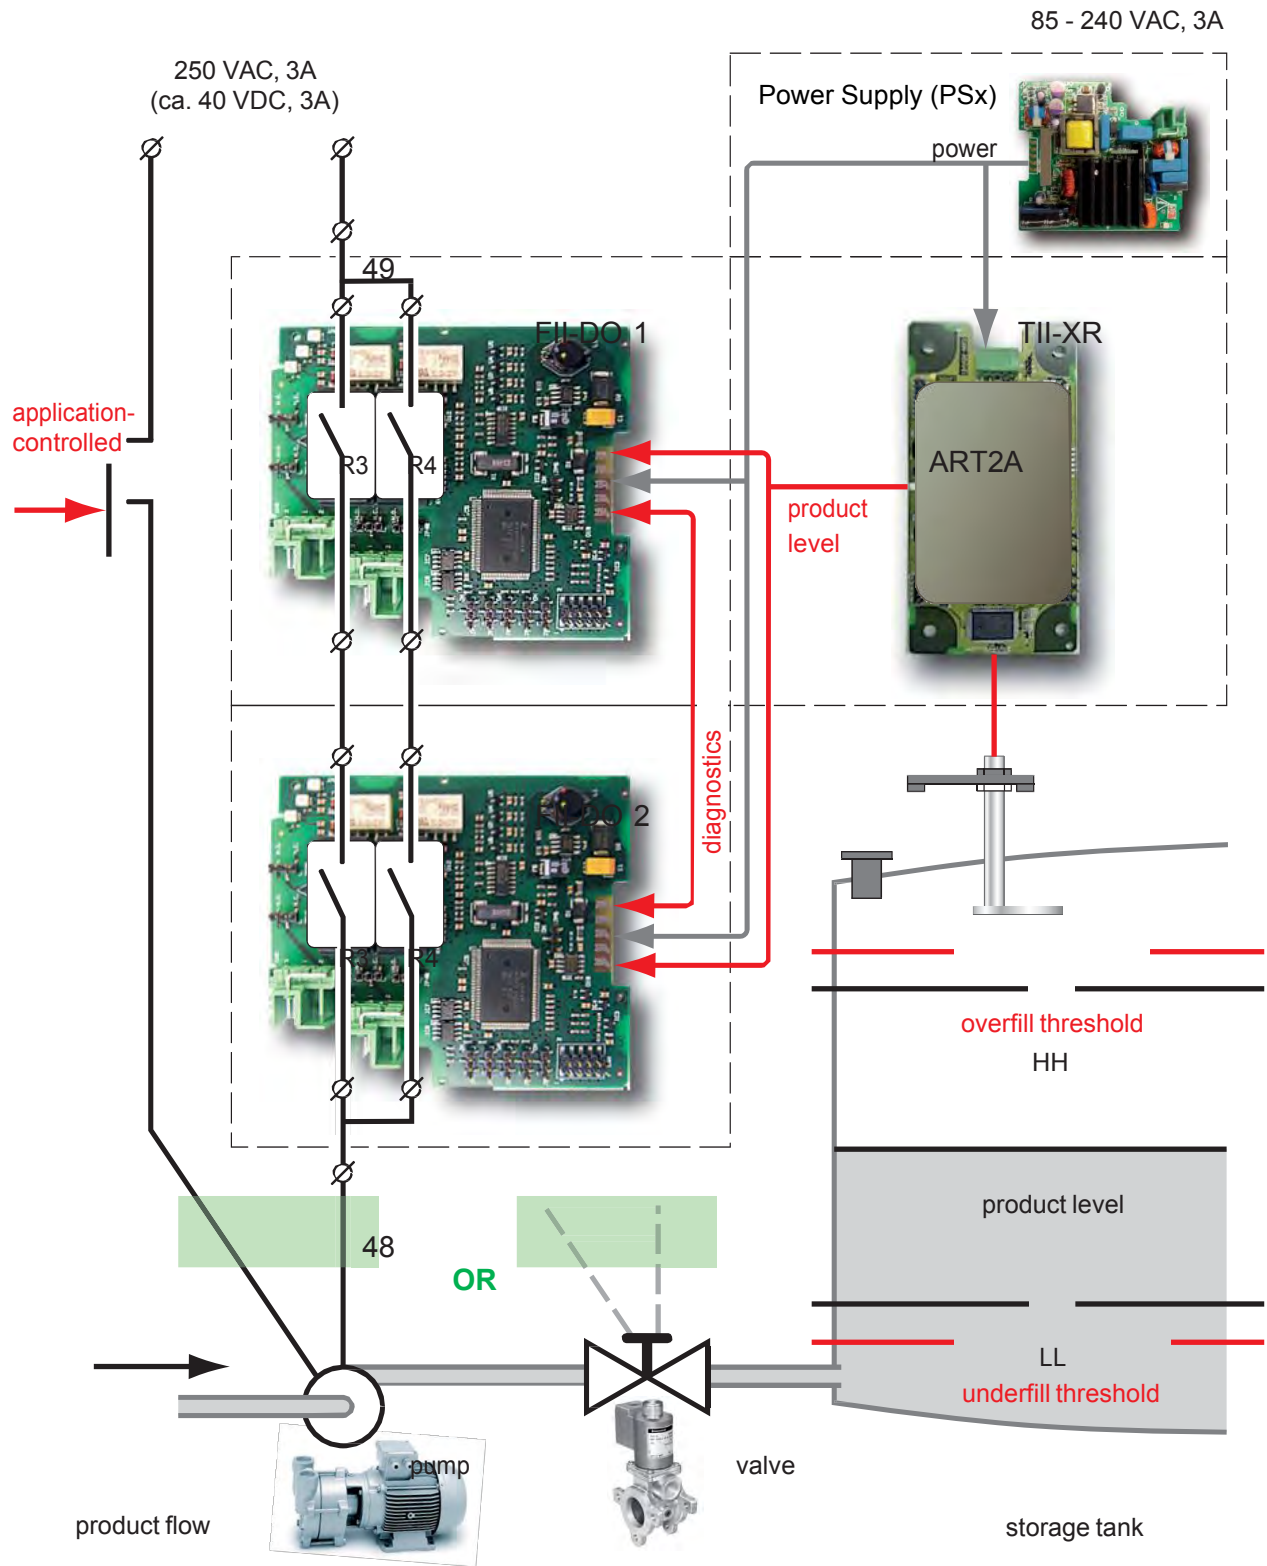

FIGURE 7-24 Overfill protection application using 2 FII-DO boards
- Relays 4 are used to increase the availability: if a problem is detected with the other relays, the redundancy takes care that the overflow protection function will work (see also FIGURE 7-24).
- The relays typically can stop a pump or close a valve that is used filling a storage tank. See FIGURE 7-24.